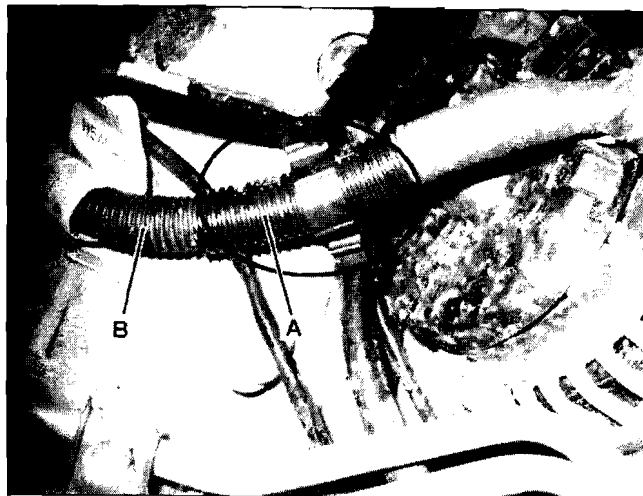

Figure 3
1. Cut open a new 5 cm long corrugated tube (A, Figure 3) lengthwise and install over existing tube (B) in damaged area (circled).